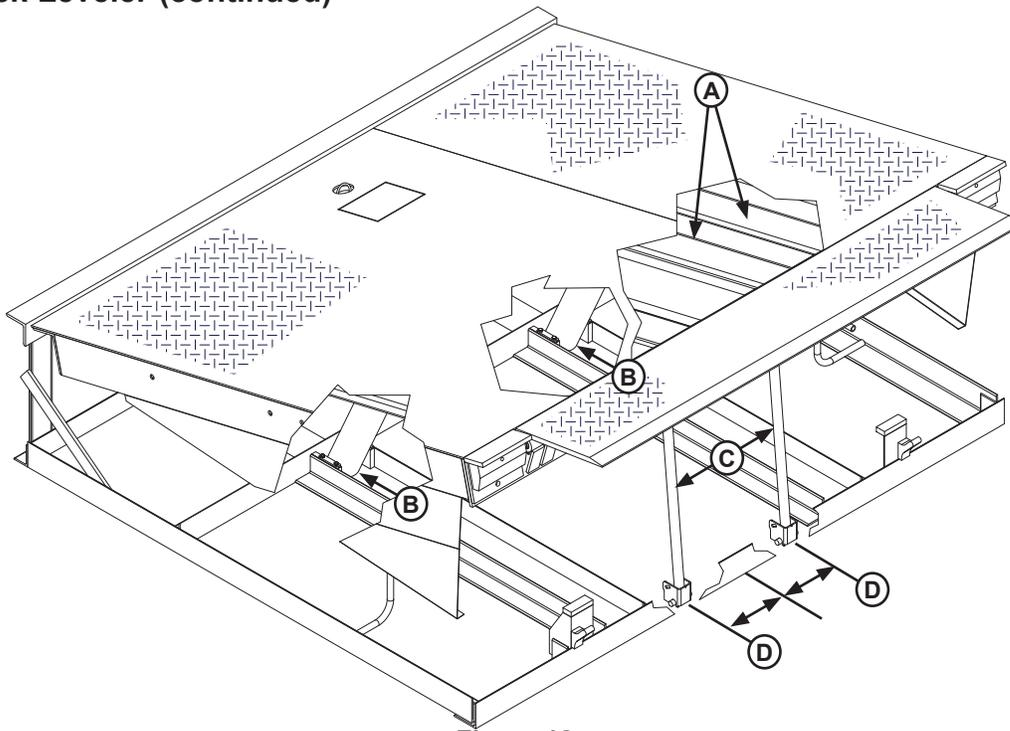

Figure 12
b. Remove maintenance prop (C) from the shipping location on dock leveler frame.
c. Position base of maintenance props (C) so center of props are approximately 8-1/2 in. (216 mm) (D) to left and right of dock leveler center. Adjust position of prop base so opposite end of prop will go between the platform joists (A) when prop is fully raised. The prop must not contact the joists, wiring, or other components.
*Standard model shown in Figure 12.